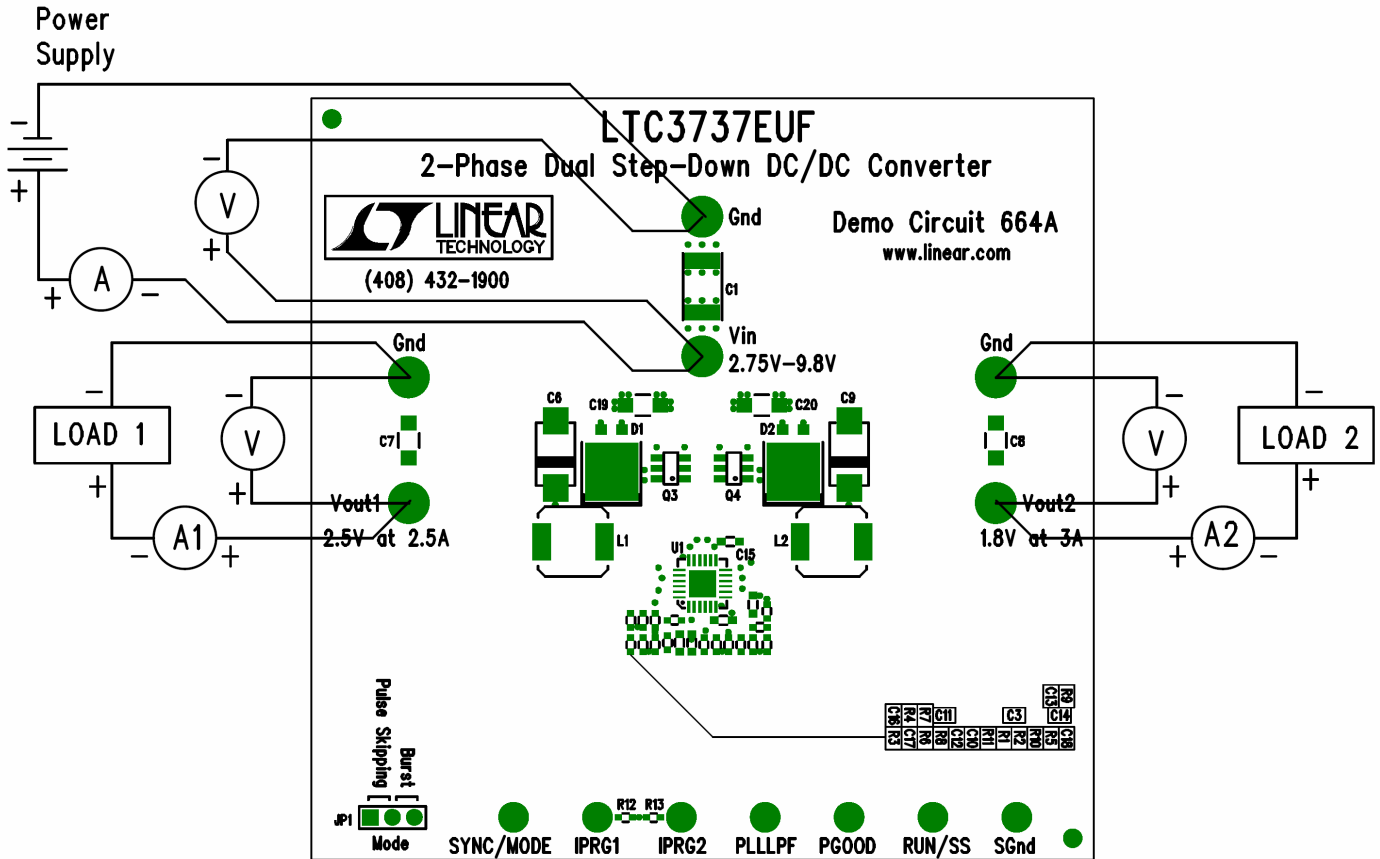

Figure 1. Proper Measurement Equipment Setup
Demonstration circuit 664 is easy to set up to evaluate the performance of LTC3737. Refer to Figure 1 for proper measurement equipment setup and follow the procedure below:
2. Connect the 2.5V load (Load 1 in Figure 1) between Vout1 and GND; connect the 1.8V load (Load 2 in Figure 1) between Vout2 and GND. (Initial loads: 0A.)